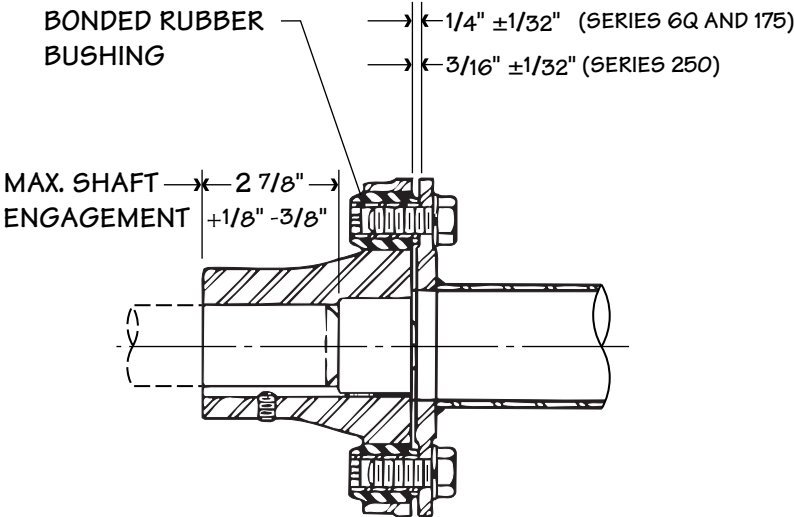

Figure 4 250 series shown
Note match numbers on the driveshaft flanges and remove the yokes. Coat the motor shaft and Geareducer shaft with "Thred-Gard" (Crane Packing Co.) or similar lubricant. Place the key halfway in motor and Geareducer shafts, then install yokes as shown in Figure 4. Use a rubber mallet or wood block when tapping yokes to prevent damage. Tighten each yoke set screw against key to 20 ft·lbf (27 N·m) torque.
Align match numbers on tube and yoke flanges and bolt the tube and flange assembly to the Geareducer yoke while supporting the motor end of the tube and flange assembly. Progressively tighten bolts to 60 ft·lbf (82 N·m) torque. Slide the motor so that motor yoke can be bolted to the tube and flange assembly without pushing or pulling on the bushings. Align match numbers and bolt the motor yoke to the tube and flange assembly. Progressively tighten bolts to 60 ft·lbf (82 N·m) torque. The distance between tube and yoke flanges should be as shown in Figure 4.
cally by shimming, or horizontally by shifting on support. Align driveshaft until the total indicator reading at each end is within .005". Tighten all mounting bolts on the motor and Geareducer, and recheck alignment. Maintain gap between face of flange and face of yoke as shown in Figure 4.
- 8. If the motor has been moved back to permit removal of the tube and flange assembly, reposition the motor, being sure that flange spacing is maintained. See Figure 4. Tighten the $5/8"$ machine bolts or cap screws to 60 ft·lbf (82 N·m) torque. For the 6Q and 175 series driveshaft, use an Allen wrench to prevent bushing from rotating in its socket. Recheck driveshaft alignment and tighten motor mounting bolts.